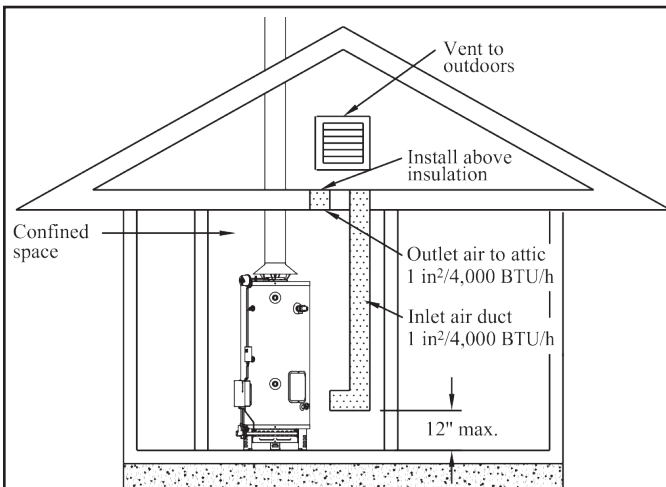

Figure 5 - Confined Space - Communicating Outdoors through Vertical Ducts
2) When communicating with the outdoors through vertical ducts, each opening shall have a minimum free area of one (1) square inch per 4,000 BTU/H (5.5 cm²/kW) of the total input rating of all gas appliances in the enclosure. See Figure 5.